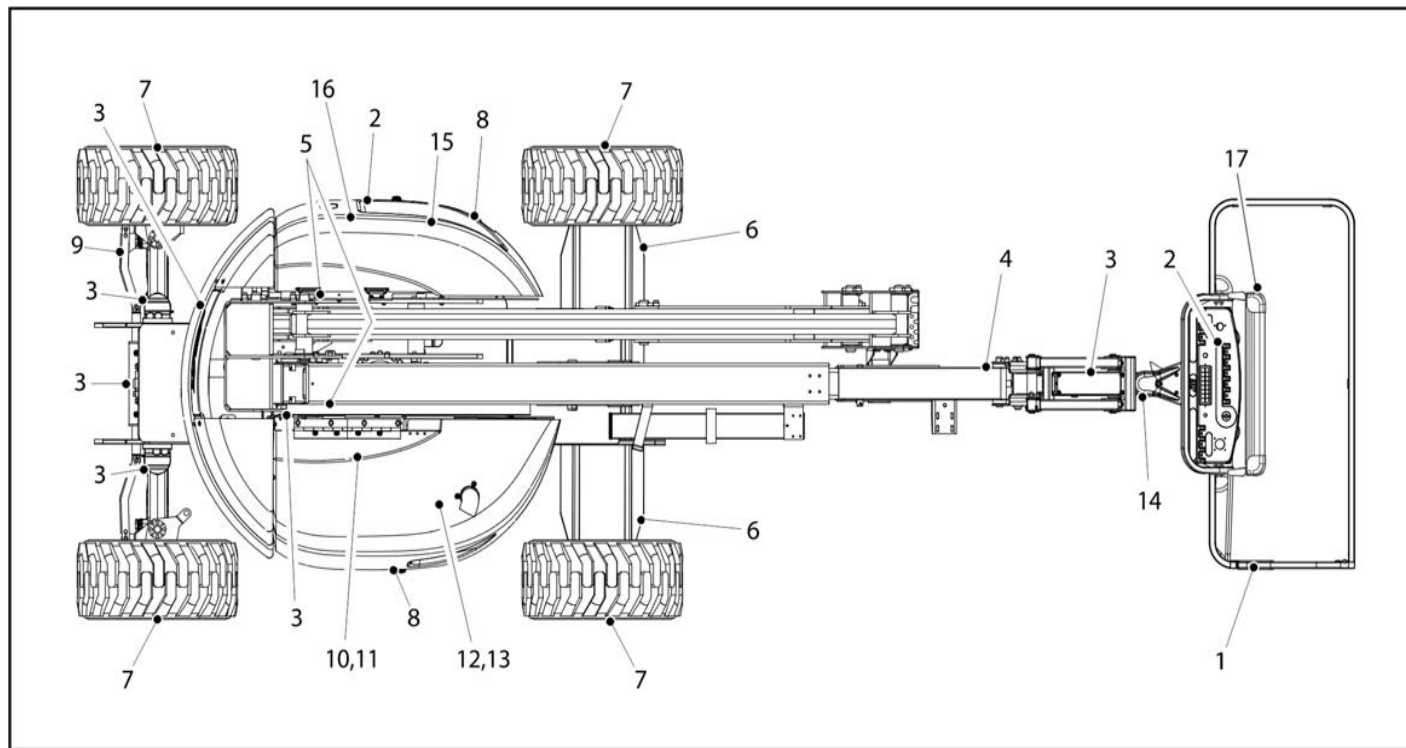

Figure 2-3. Daily Walk-Around Inspection - Sheet 1 of 3
5. **“Walk-Around” Inspection** – Refer to Figure 2-3. and Figure 2-4.